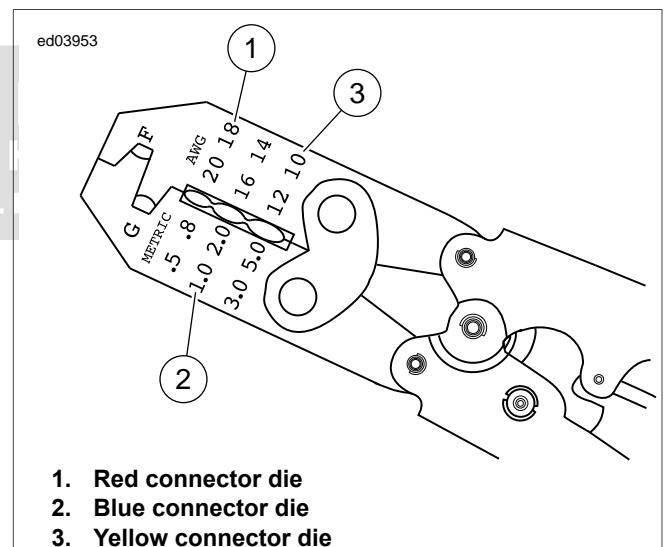

Figure B-30. Packard Crimping Tool (HD-38125-8)
- See Figure B-30. Open the PACKARD TERMINAL CRIMPER (Part No. HD-38125-8) ratchet by squeezing the handles closed.